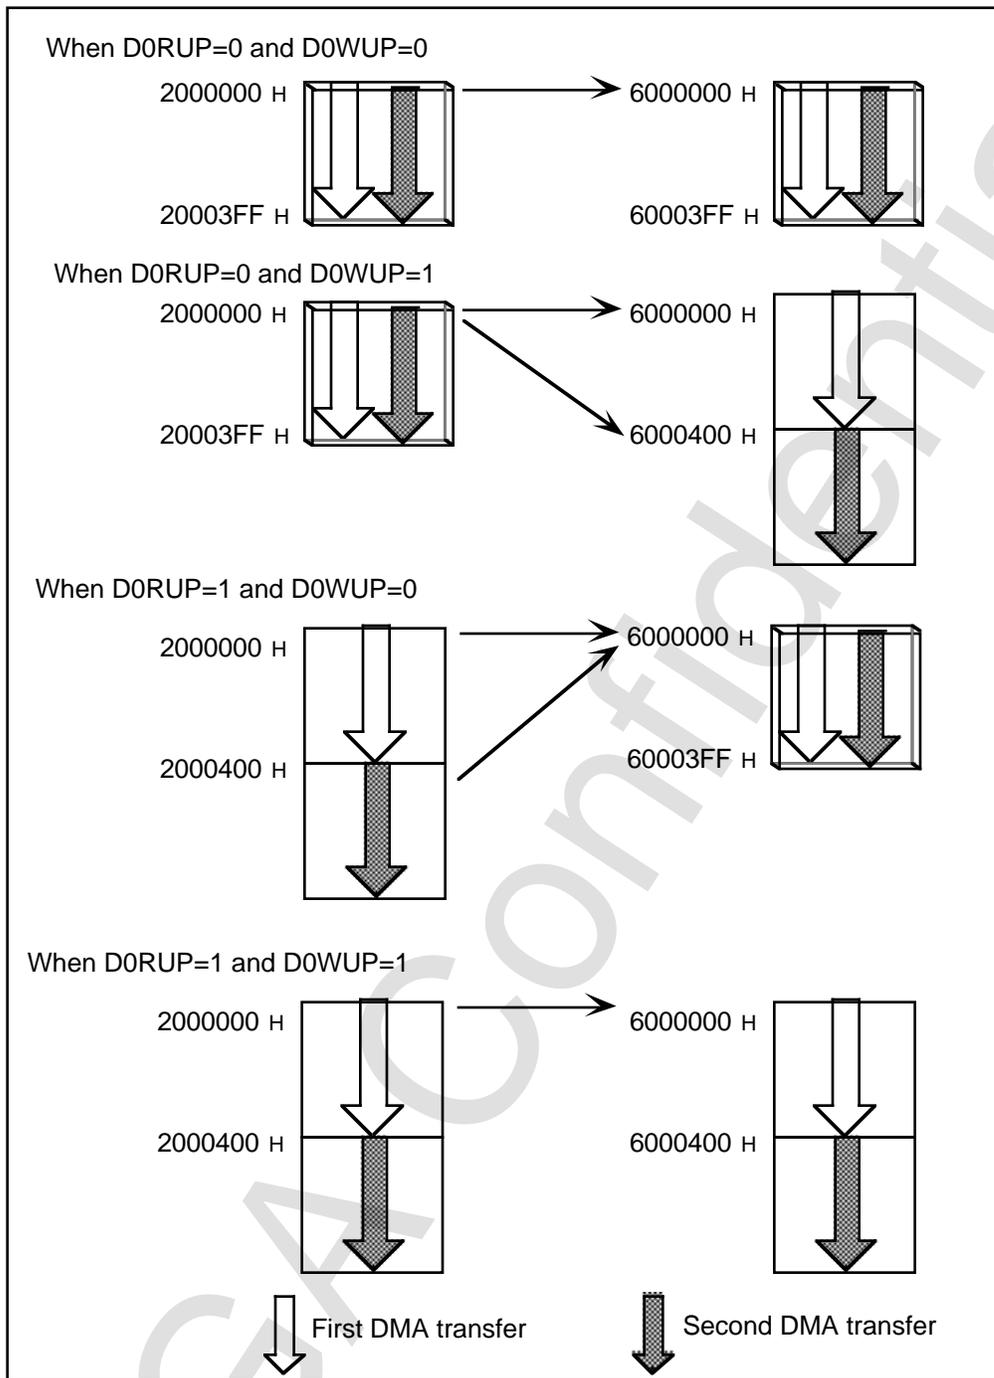

Figure 2.7 Differences in DMA Operations according to the Address update Bit
- 7) After DMA has ended, DMA is activated each time the start factor set in step 5) occurs. The operation at that time changes according to the values of the read address update bit (D0RUP) and write address update bit (D0WUP). Figure 2.7 shows DMA operation changes by the address update bit.